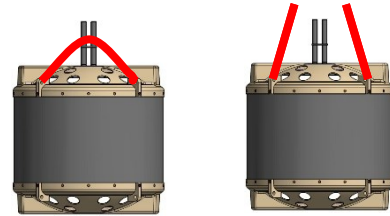

Fig. 2+3
- The conveyor rope / sling has to be fixed on the mounting eyes of the housing (see Fig. 2+3).